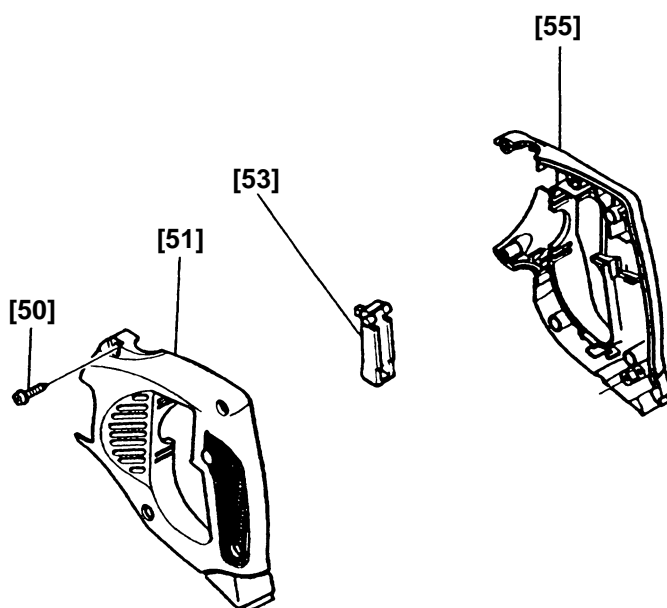

Fig. 8
(6) Removal of Handle (C) [55] and Handle (D) [51] (Fig. 8)